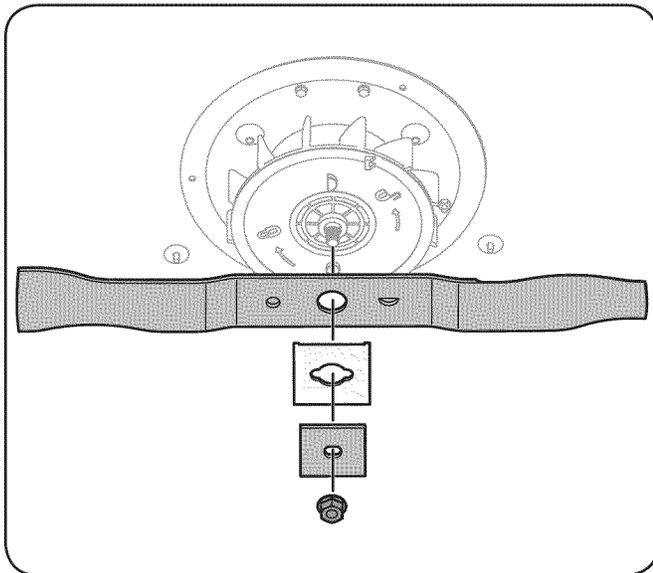

Figure 7-1
4. Loosen and remove the blade nut, locking plates, and blade. See Fig. 7-1.
1. Place the cutting blade, locking plates, and blade nut on the motor shaft and thread the blade bolt in finger tight. See Fig. 7-1.